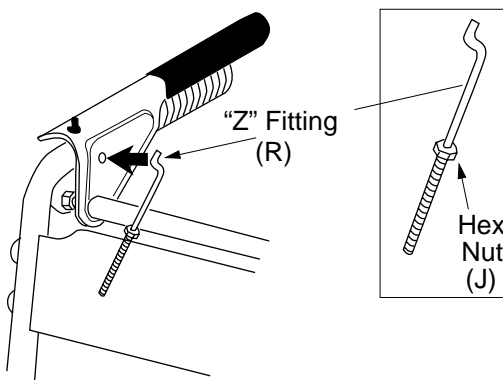

Figure 10
1. Thread hex nuts (J) onto the "Z" fittings (R) (see inset, Figure 10). Insert "Z" fitting into hole in clutch grips.